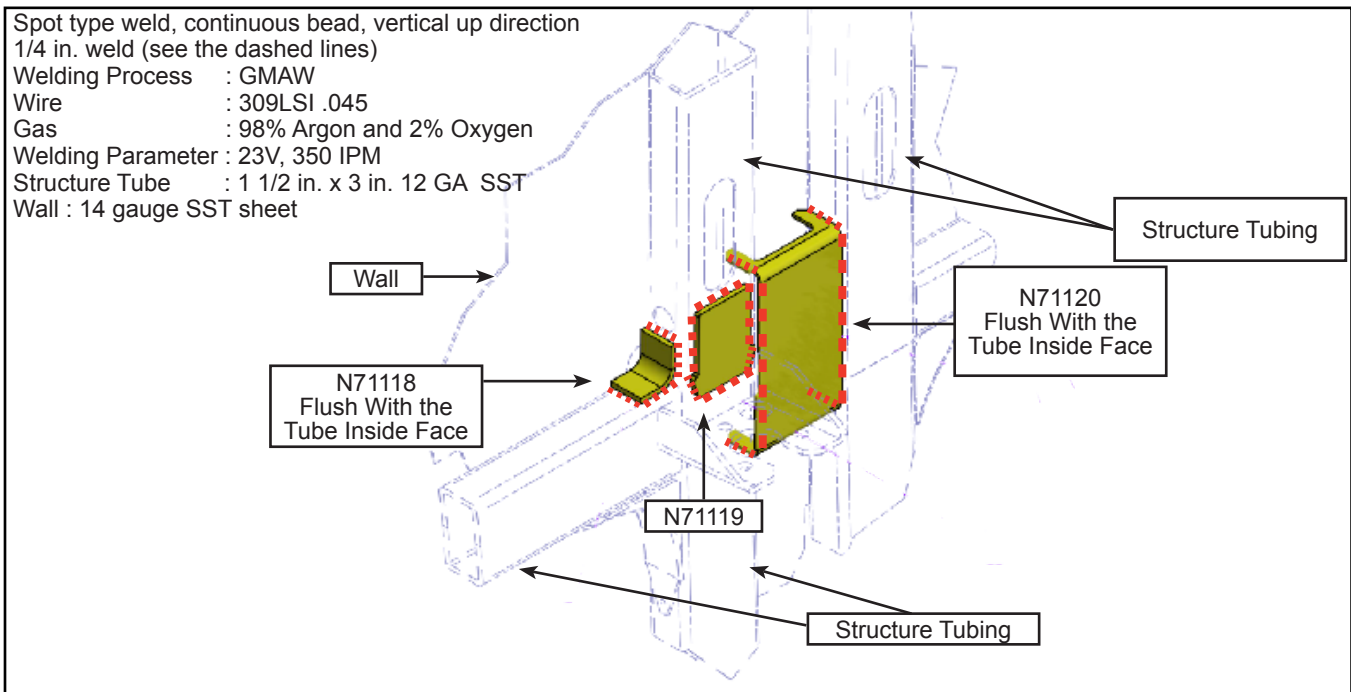

Figure 14 - Weld the Parts in Place
- 1.24. Plate N71119 must be centered with the vertical tube. N71118 and N71120 must be flush with the inside face of the tubes. Make a full weld on every edge, represented by the dashed lines in Figure 14. Weld to the structure tubes only, not to the wall.